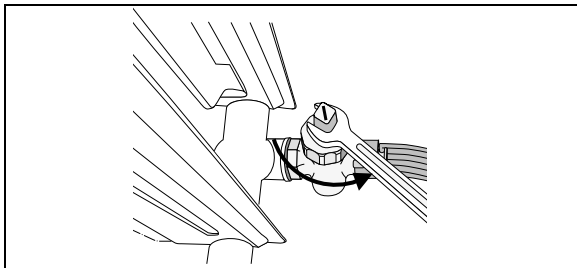

fig. 9 *Draining the system*
- Drain the system at its lowest point using the stop valves or radiator (see fig. 9). The automatic air vent at the system's highest point must be open.